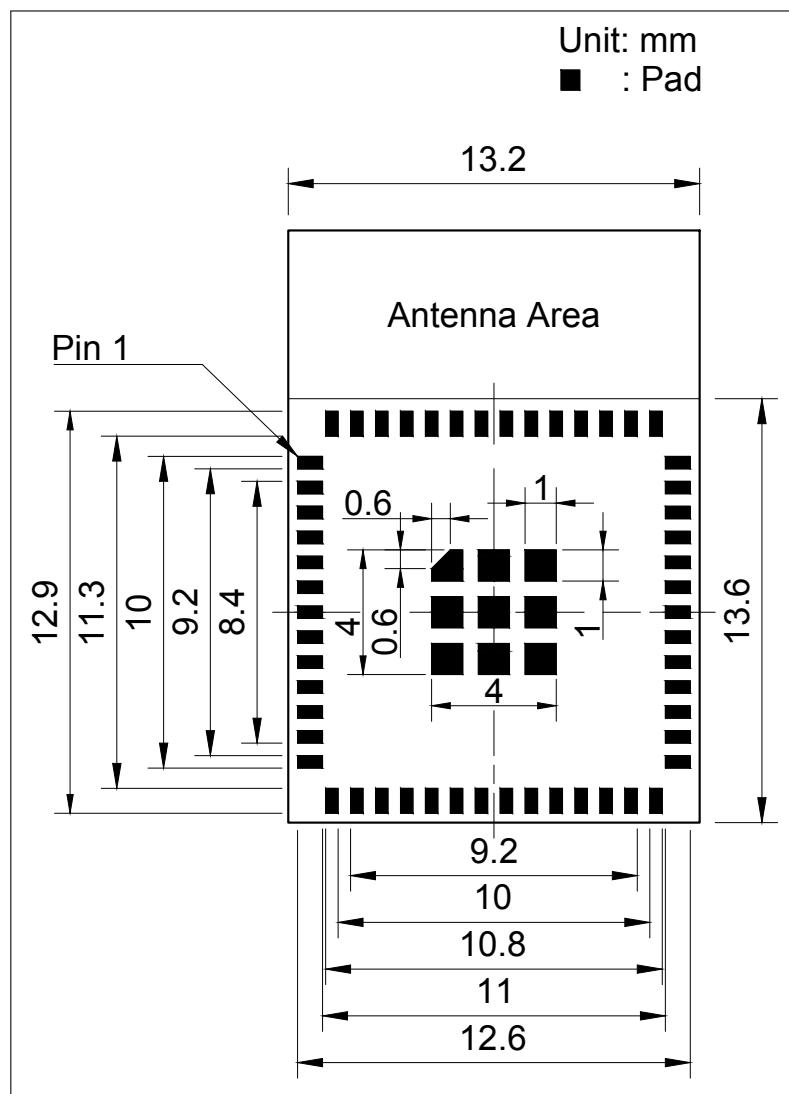
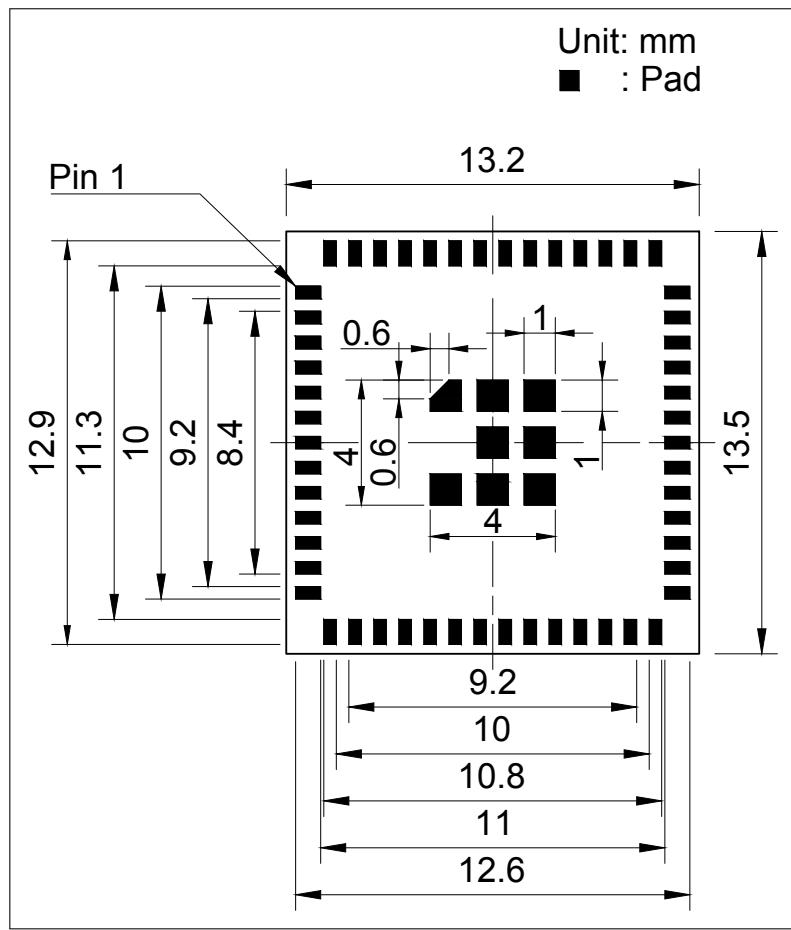

Figure 14: ESP32-MINI-1 Recommended PCB Land Pattern
Figure 15: ESP32-MINI-1U PCB Recommended PCB Land Pattern
- Figures for recommended PCB land patterns with all the dimensions needed for PCB design. See Figure 14 ESP32-MINI-1 Recommended PCB Land Pattern and Figure 15 ESP32-MINI-1U Recommended PCB Land Pattern.
- Source files of recommended PCB land patterns to measure dimensions not covered in Figure 14 and Figure 15. You can view the source files for ESP32-MINI-1 and ESP32-MINI-1U with Autodesk Viewer.